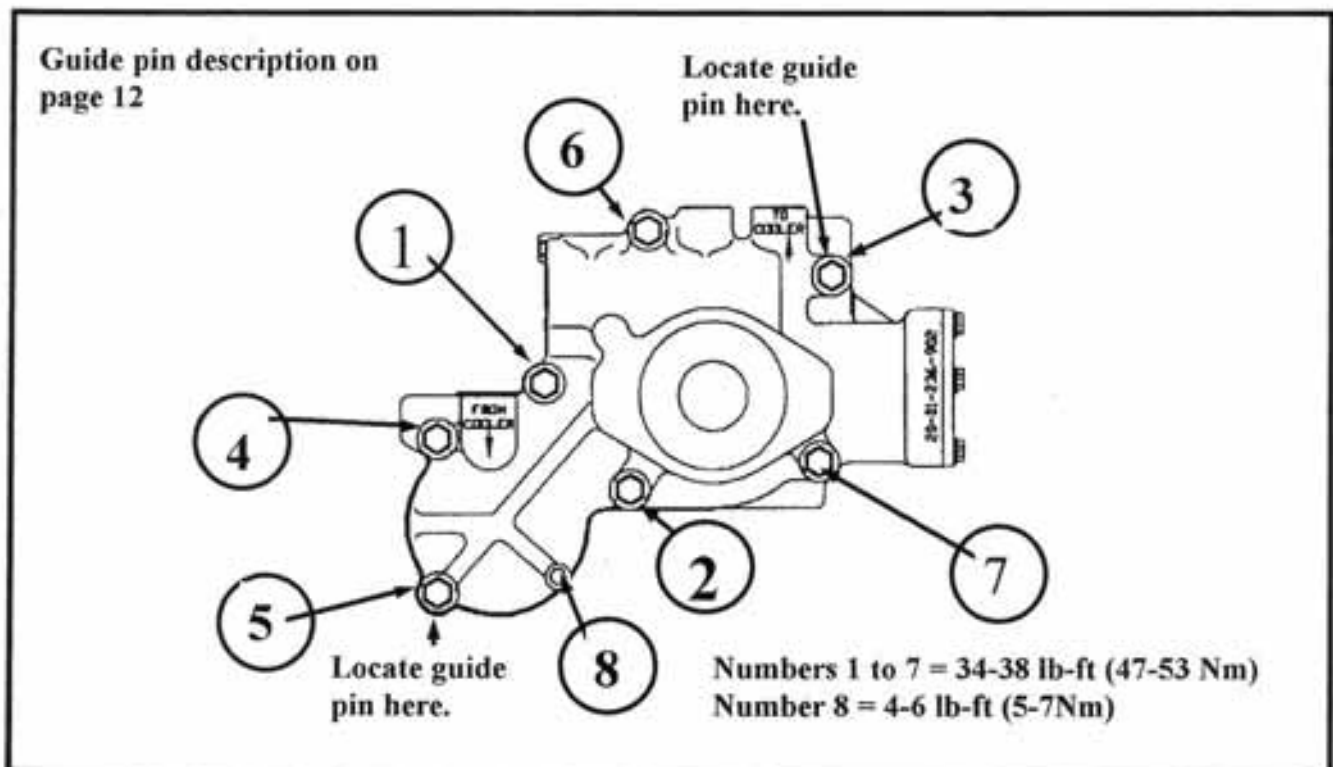

Figure 1-13 Pump housing bolt tightening sequence.
2. Install two guide pins (figure 1-13) in case (160) on opposite sides of the pump mounting surface. Remove the pump assembly from the transmission case.
3. Position gasket (108) on mounting surface.
4. Install o-ring (201) in groove around pump (203) (o-ring not required with crescent pump).
5. Position shim packs (109) determined in section 5-21, page 5-13 of S5000 Down-Angle Service Manual (Form 1351/4-95) on bearing cups (110 & 111).
6. Carefully slide the pump assembly over the guide pins and finger tight five bolts (104), remove the guide pins and finger tight the two remaining bolts (104).